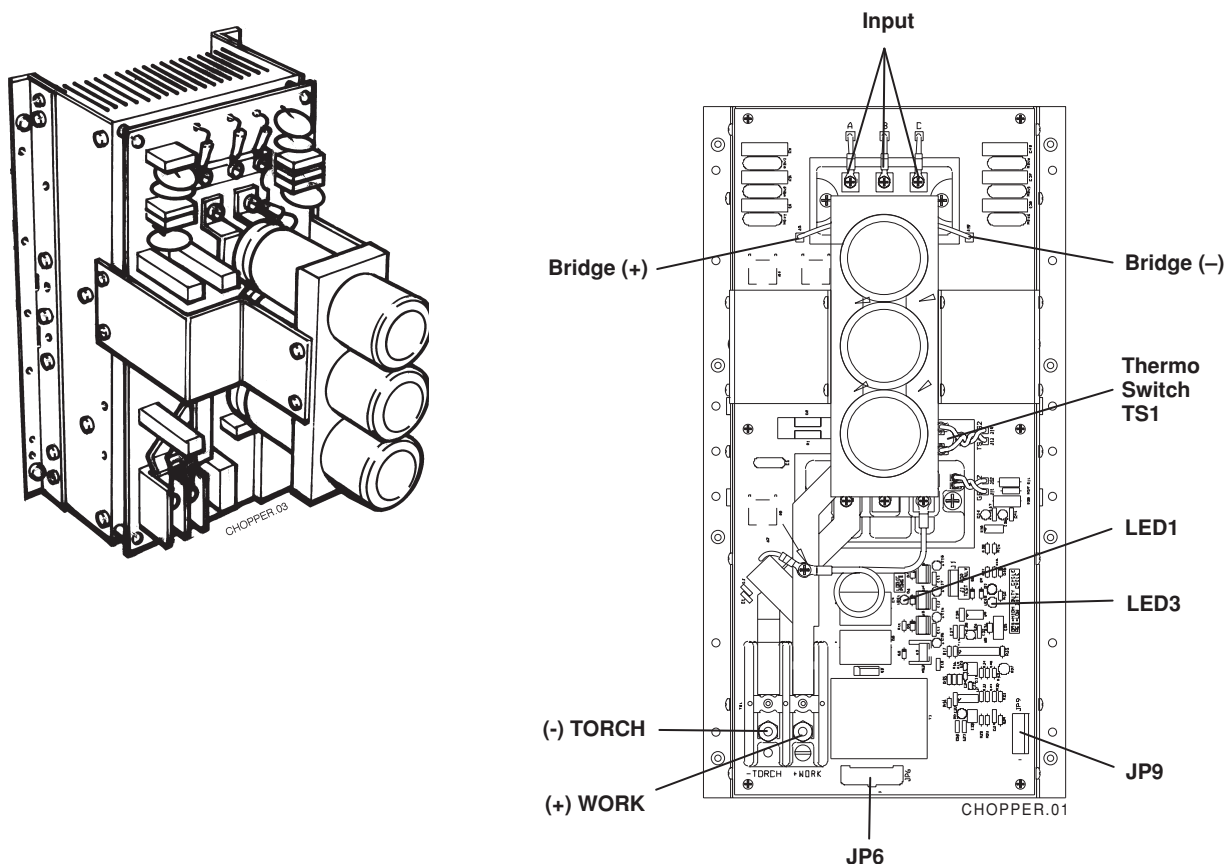

Figure 5-9 CH130 Chopper Module – Front View
3. Place the positive lead to the + side of the bridge and the negative lead to the – side of the bridge. See Figure 5-9. Note that actual connection points are hidden by the cap support bracket in Figure 5-9.
5. If voltage from step 4 is +280 VDC and corresponding fuse is not blown, check the chopper output at TB1 by placing the positive lead of the voltmeter at the (+) WORK terminal (#48A output cable) and the negative lead at the (-) TORCH terminal (#39A output cable). See Figure 5-9.